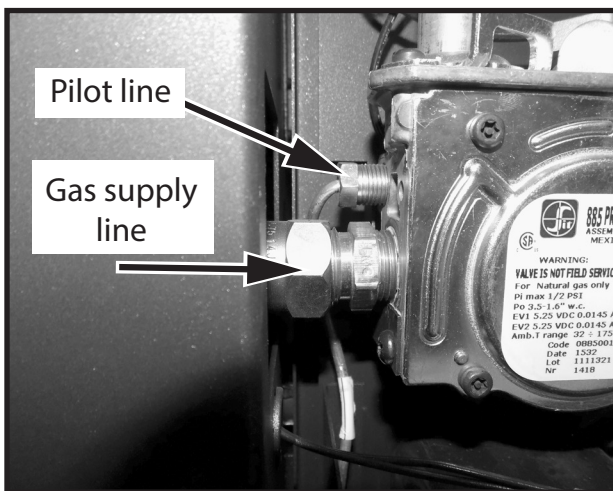

Figure 63: Gas line connections at gas valve.
13. Disconnect the gas supply line to the gas valve (Figure 63). It is not necessary to disconnect the pilot gas line at this time since it will come out with the control panel once it's removed and can be removed at that time.